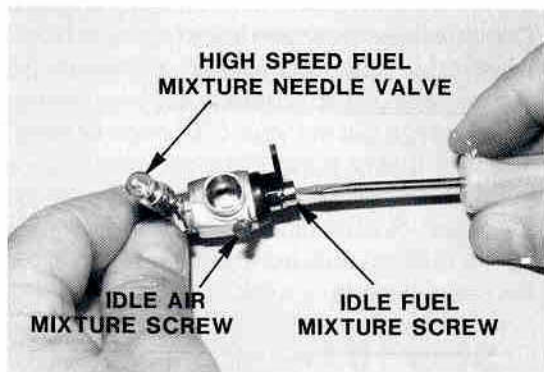
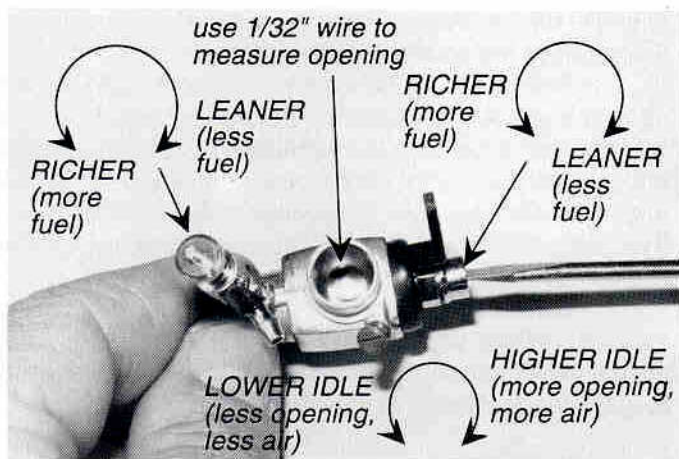

Fig. 297A
Fig. 297B
Step 8 In figs. 297A and 297B we have removed a carburetor so we can show you where each adjustment point is. (You can make any needed adjustments while the carburetor is mounted on the car.) We will show you how to adjust these features a little later. On the left is the needle valve assembly. This is your high speed fuel mixture adjustment control. The screwdriver is touching the low speed/idle fuel mixture adjustment screw. These two adjustments richen and lean the air/fuel mixture when turned in the direction shown in fig. 297B.